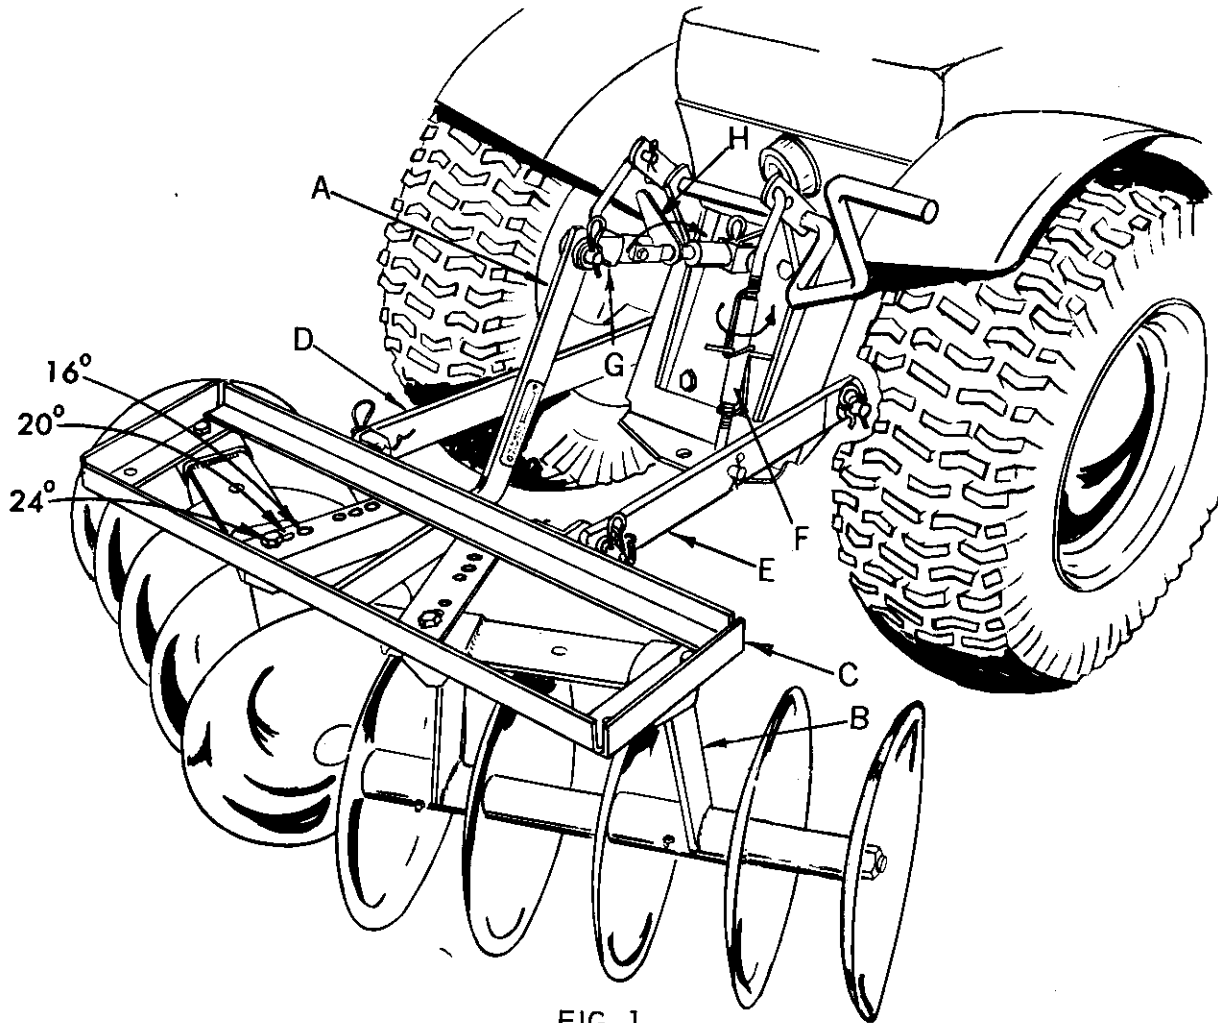

FIG. 1
1. Position frame with center bar (A) pointed up over L.H. and R.H. disc gangs as shown in Fig. 1. Secure frame (C) to standard support and bearings (B) (disc gangs) with bolts, lockwashers and hex nuts provided. Note: The three holes in centers of frame (C) for angle of disc gangs. Normally use the rear hole or 24° for deeper penetration. Refer to angle of cut for more information.
1. Back Tractor into position to attach Disc Harrow and slip L.H. lower hitch bar and bushings (D), over L.H. link pin on Disc Harrow. Secure with retainer spring. Refer to Fig. 1
2. Slip R.H. lower hitch bar and bushing (E), over R.H. link pin on Disc Harrow and secure with retainer spring. NOTE: R.H. lower hitch bar and bushings (E), is adjustable. Rotate side adjusting link (F), so that R.H. lower hitch bar and bushings (E), slides over R.H. link pin on Disc Harrow easily.
3. Assemble upper adjusting link (G), to frame center bar (A), of Disc Harrow as shown. Secure with retainer spring.